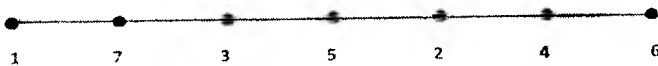

Fig.1
- b) A discretised linear bar element is as shown in fig.1. Give answer to the following: 10